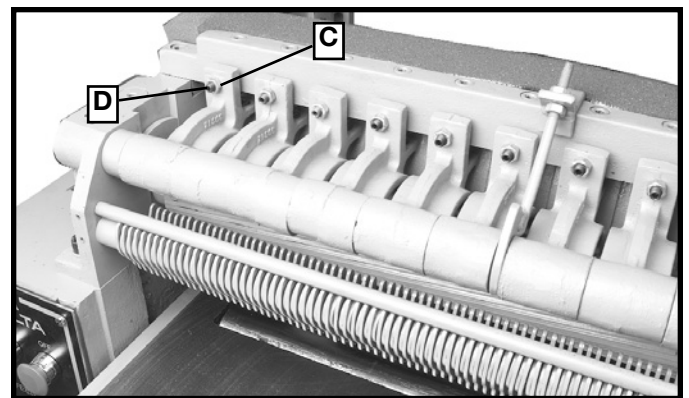

Fig. 31
6. If an adjustment to any of the chipbreaker segments is necessary, loosen the corresponding lock nut, such as (C) Fig. 31, and turn adjusting screw (D) in or out as required. Then tighten lock nut (C).